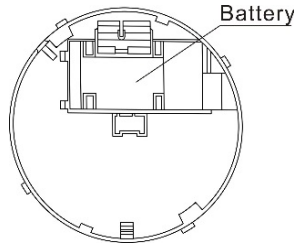

Fig. 5 – Battery compartment
- Remove the battery (supplied) from the battery compartment on the underside of the smoke alarm, and correctly fit it in the battery compartment (see Fig. 5).